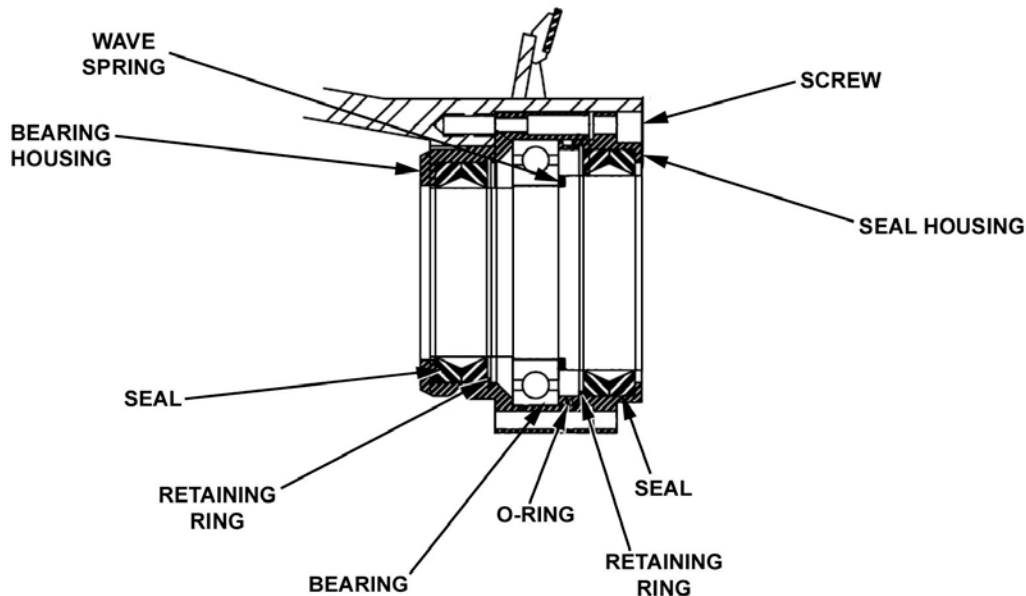

Figure 5-13 Solid End Conveyor Bearing Installation
2. Remove screws securing seal housing and bearing housing (Figure 5-13) to conveyor, and remove seal housing and bearing housing. Separate seal housing from bearing housing.
1. Insert new seal into seal housing (Figure 5-13), and secure with retaining ring.